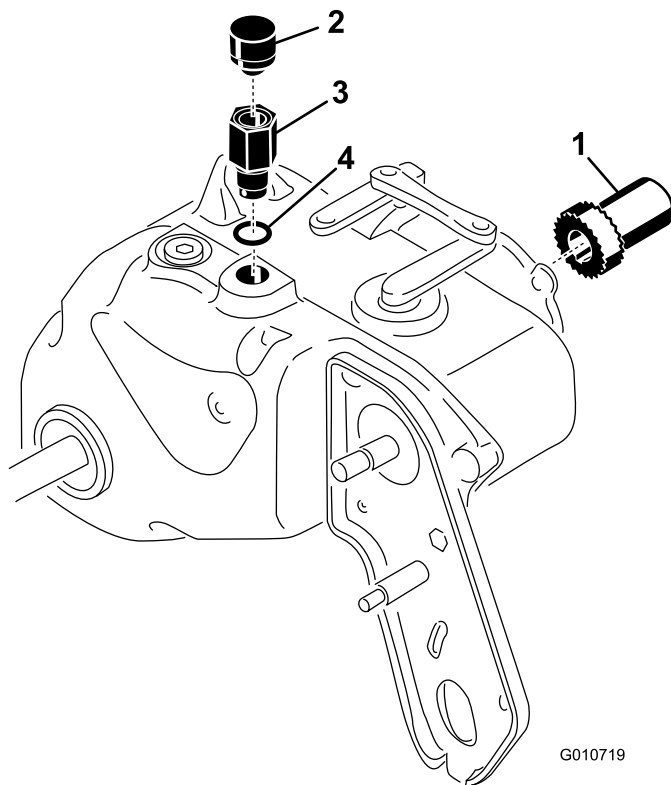

Figure 1
Note: The engine gear (Figure 1), included in this kit is only required when servicing the gearbox on a Greensmaster Flex 21, Model 04021 .
2. Install the vent, vent adapter and O-ring to the gear box as shown in Figure 1.